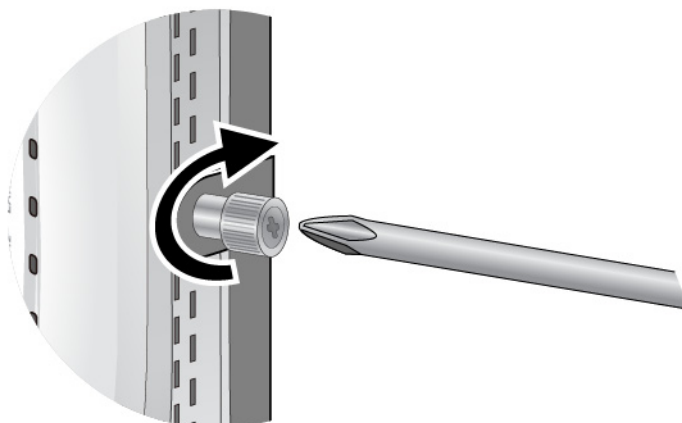

Figure 26. Tightening the Mounting Bracket Thumbscrew
3. Tighten the thumbscrew to secure the access point to the mounting bracket. Refer to Figure 26.